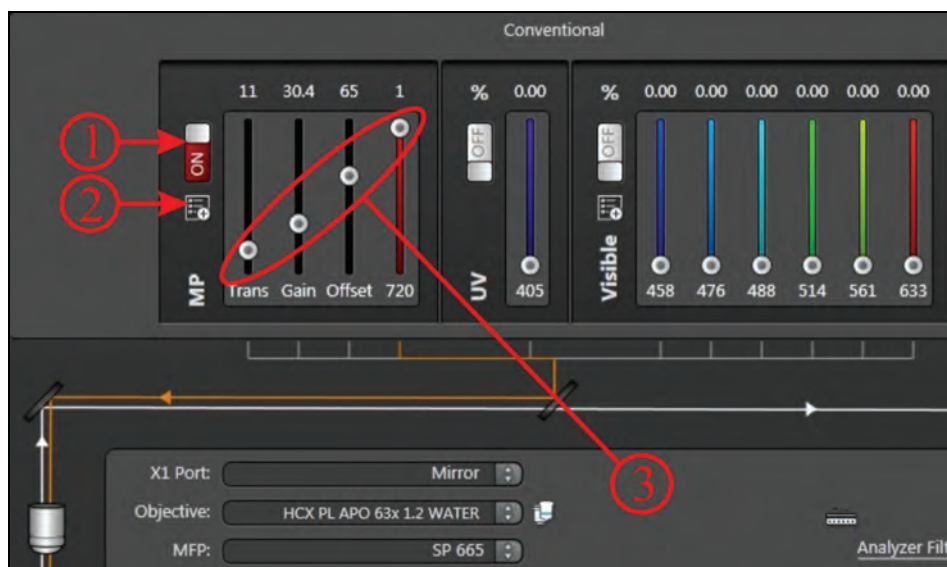

Figure 99: Activating the MP Laser in LAS AF
1. During MP excitation, open the MP laser shutter in **Beam Path Settings** (Figure 99, item 1) and click on the button to open the **MP Laser Configuration** dialog (Figure 99, item 2).
4. Select a suitable neutral filter strength for the light incidence (**Trans**) and/or define the **Gain** and **Offset** from the EOM (**Figure 99, item 3**).